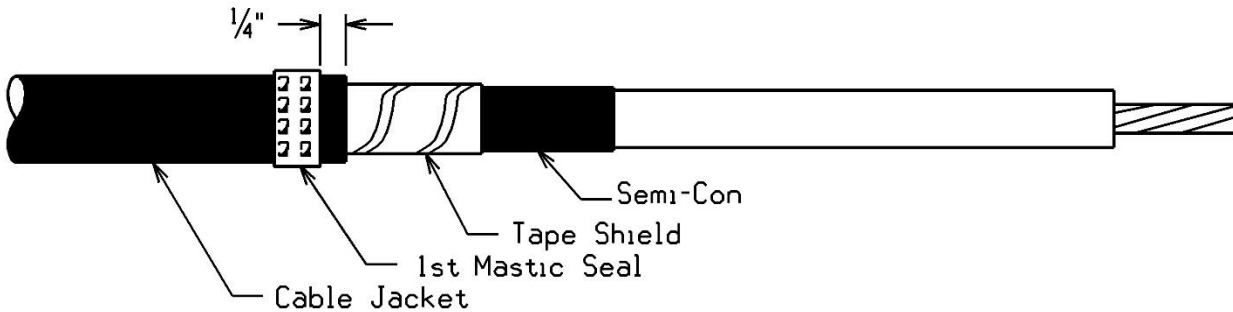

Figure 20
1. Select one of the mastic strips from the termination kit and remove the white release liners. Using light tension, apply a single wrap of mastic around the cable jacket 1/4 inch from the cut edge. Cut off excess mastic. See Figure 20.